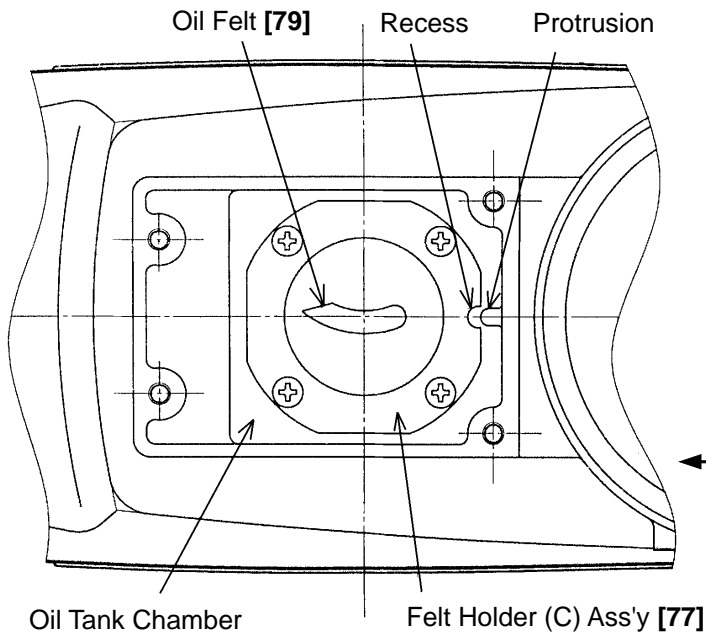

Fig. 14
- 3) As illustrated in Fig. 14, mount the Felt Holder (C) Ass'y [77] so that its recess is engaged with the protrusion on the inside of the oil tank chamber of the housing.